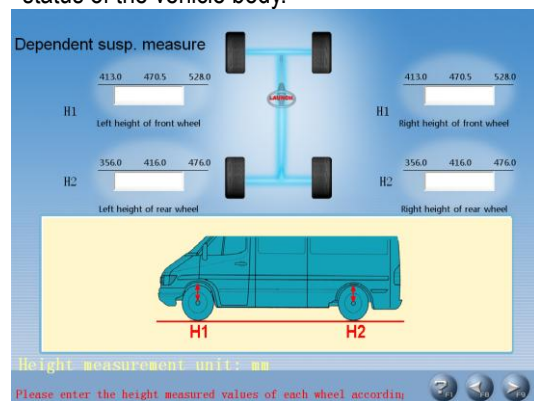

Fig.4.9
4. When some special vehicle models (such as RENAULT MEGANE II) are selected, the screen will pop up an interface of [Dependent Suspension Measurement] as shown in Fig.4.9. This interface provides an operating platform for dependent suspension measurement system, in order to confirm the standard data according to the current status of the vehicle body.